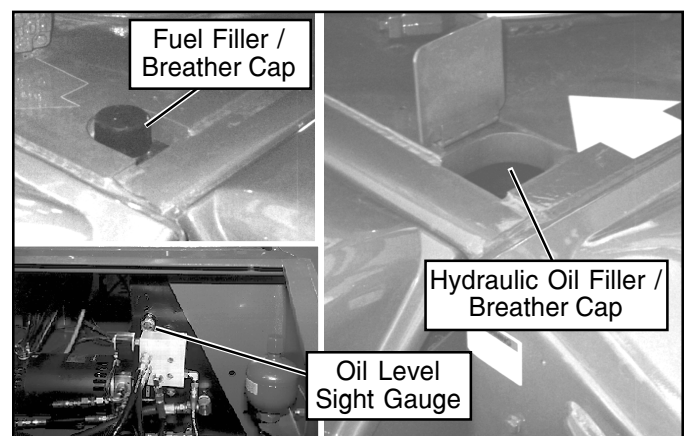

Figure 9: Hydraulic Oil Filler / Breather Cap, Fuel Filler / Breather Cap, and Oil Level Sight Gauge
2. Lift flap located on top of chassis left side (see figure 9).